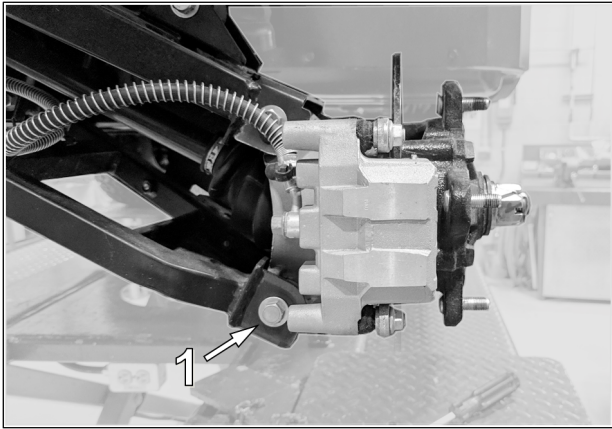

Fig. 5
- Remove bolt (1) that links lower suspension arm to wheel knuckle. See Fig. 5